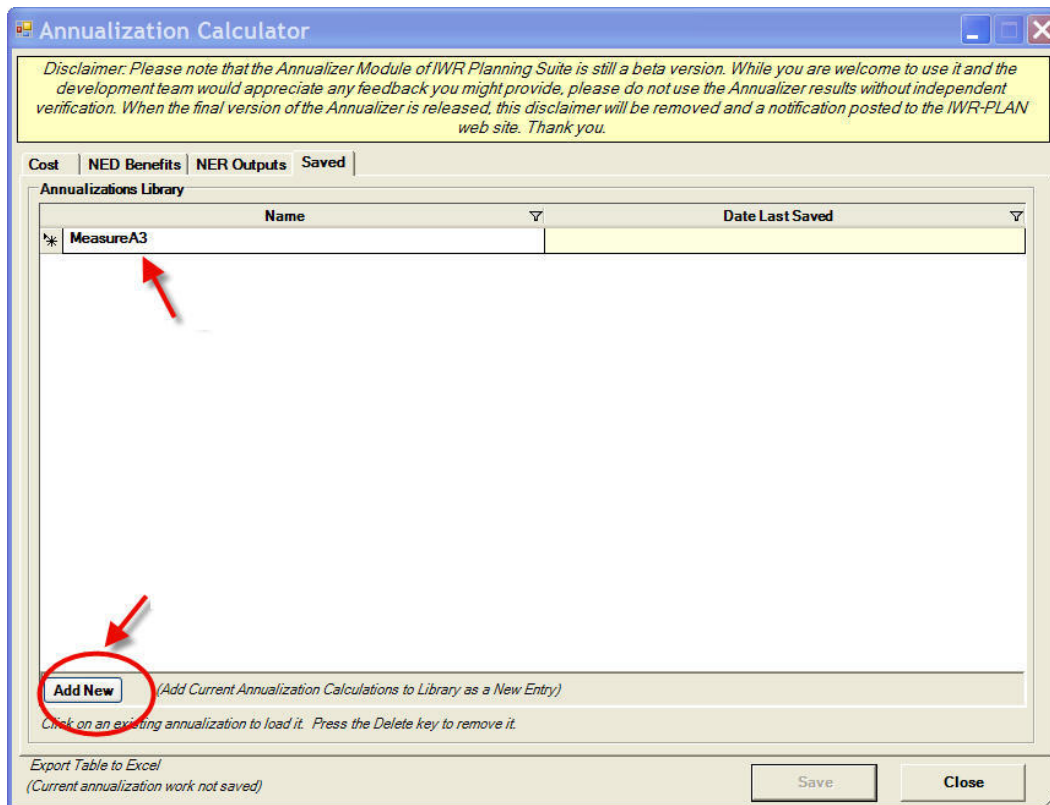
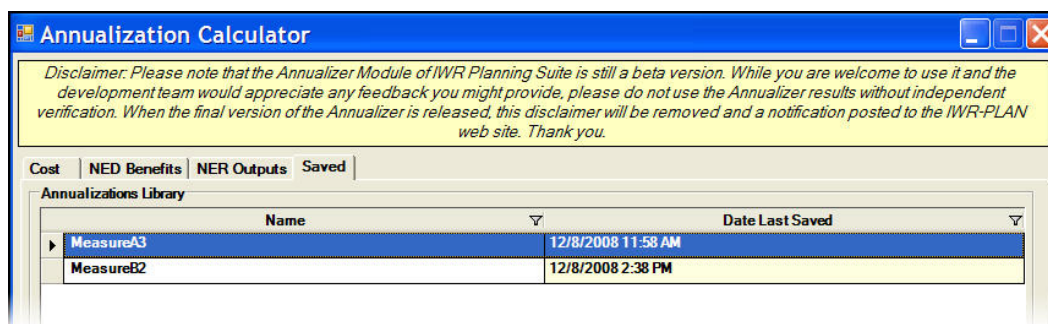

Figure 3
Figure 4
To begin, click the Saved tab. To add a new plan measure that annualized costs and benefits will be computed for, click the ‘Add New’ button, as shown in **Figure 3**. Once clicked, a new row will appear under the ‘Annualizations Library’ and the cursor will appear in the ‘Name’ box. Enter the desired name of the alternative. In the example, the measure is named “MeasureA3”. Press the TAB button on the keyboard, the ‘Date Last Saved’ box is automatically updated with the date and time. Repeat the process to add additional measures. In the example, Cedar Lake Study Measure B.2 is added to the library. Select Measure A.3 to begin entering data, as shown in **Figure 4**.
- To delete a measure from the library, select as shown in Figure 3 and press DELETE button on keyboard. A dialog box will appear confirming the deletion. Select 'Yes' to delete the measure and 'No' to cancel and return to the Saved tab.